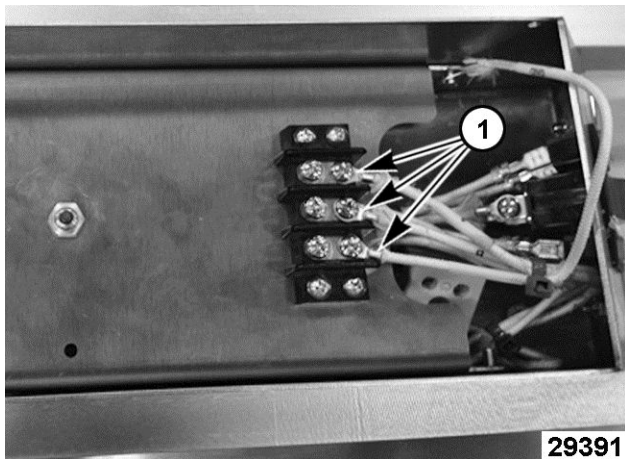

Fig. 39
- Note heating element wire locations (1, Fig. 39) and disconnect from terminal strip.